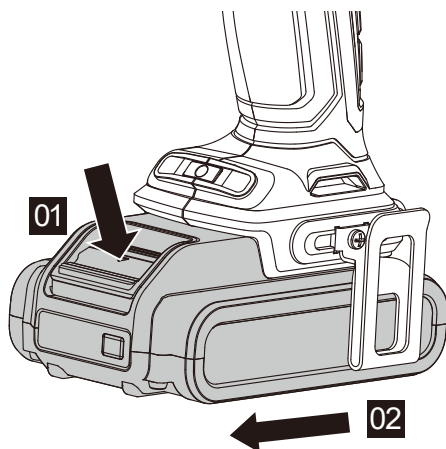

Figure 2-1
2. REMOVING OR INSTALLING BATTERY PACK (SEE FIG. 2-1 & 2-2)